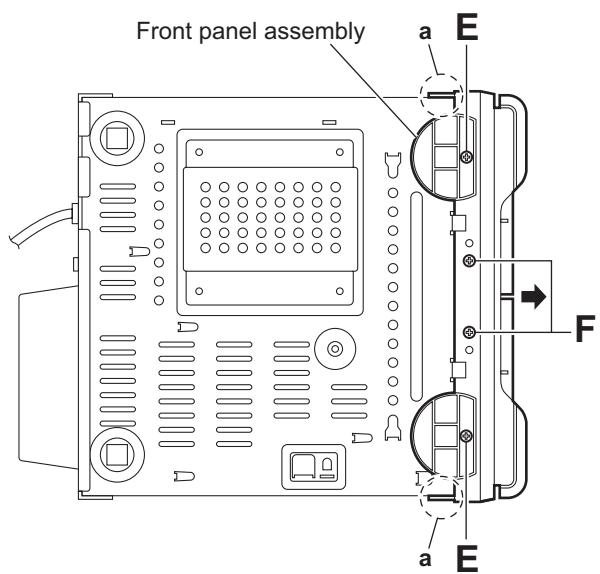

Fig.7
- (9) From the bottom side of the main body, remove the two screws **E** and two screws **F** attaching the front panel assembly. (See Fig.7.)
- (10) Release the claws **a**, remove the front panel assembly from the main body in the direction of the arrow. (See Fig.7.)